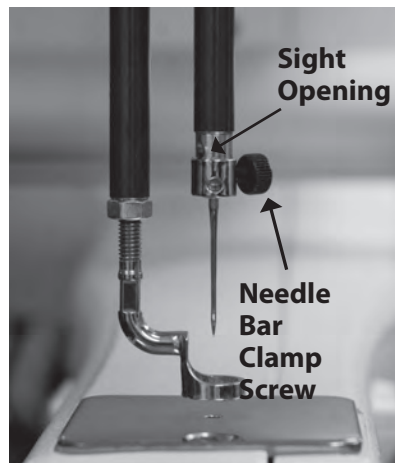

Figure 8
3. Loosen the needle bar clamp screw with the appropriate screwdriver (**Figure 8**).